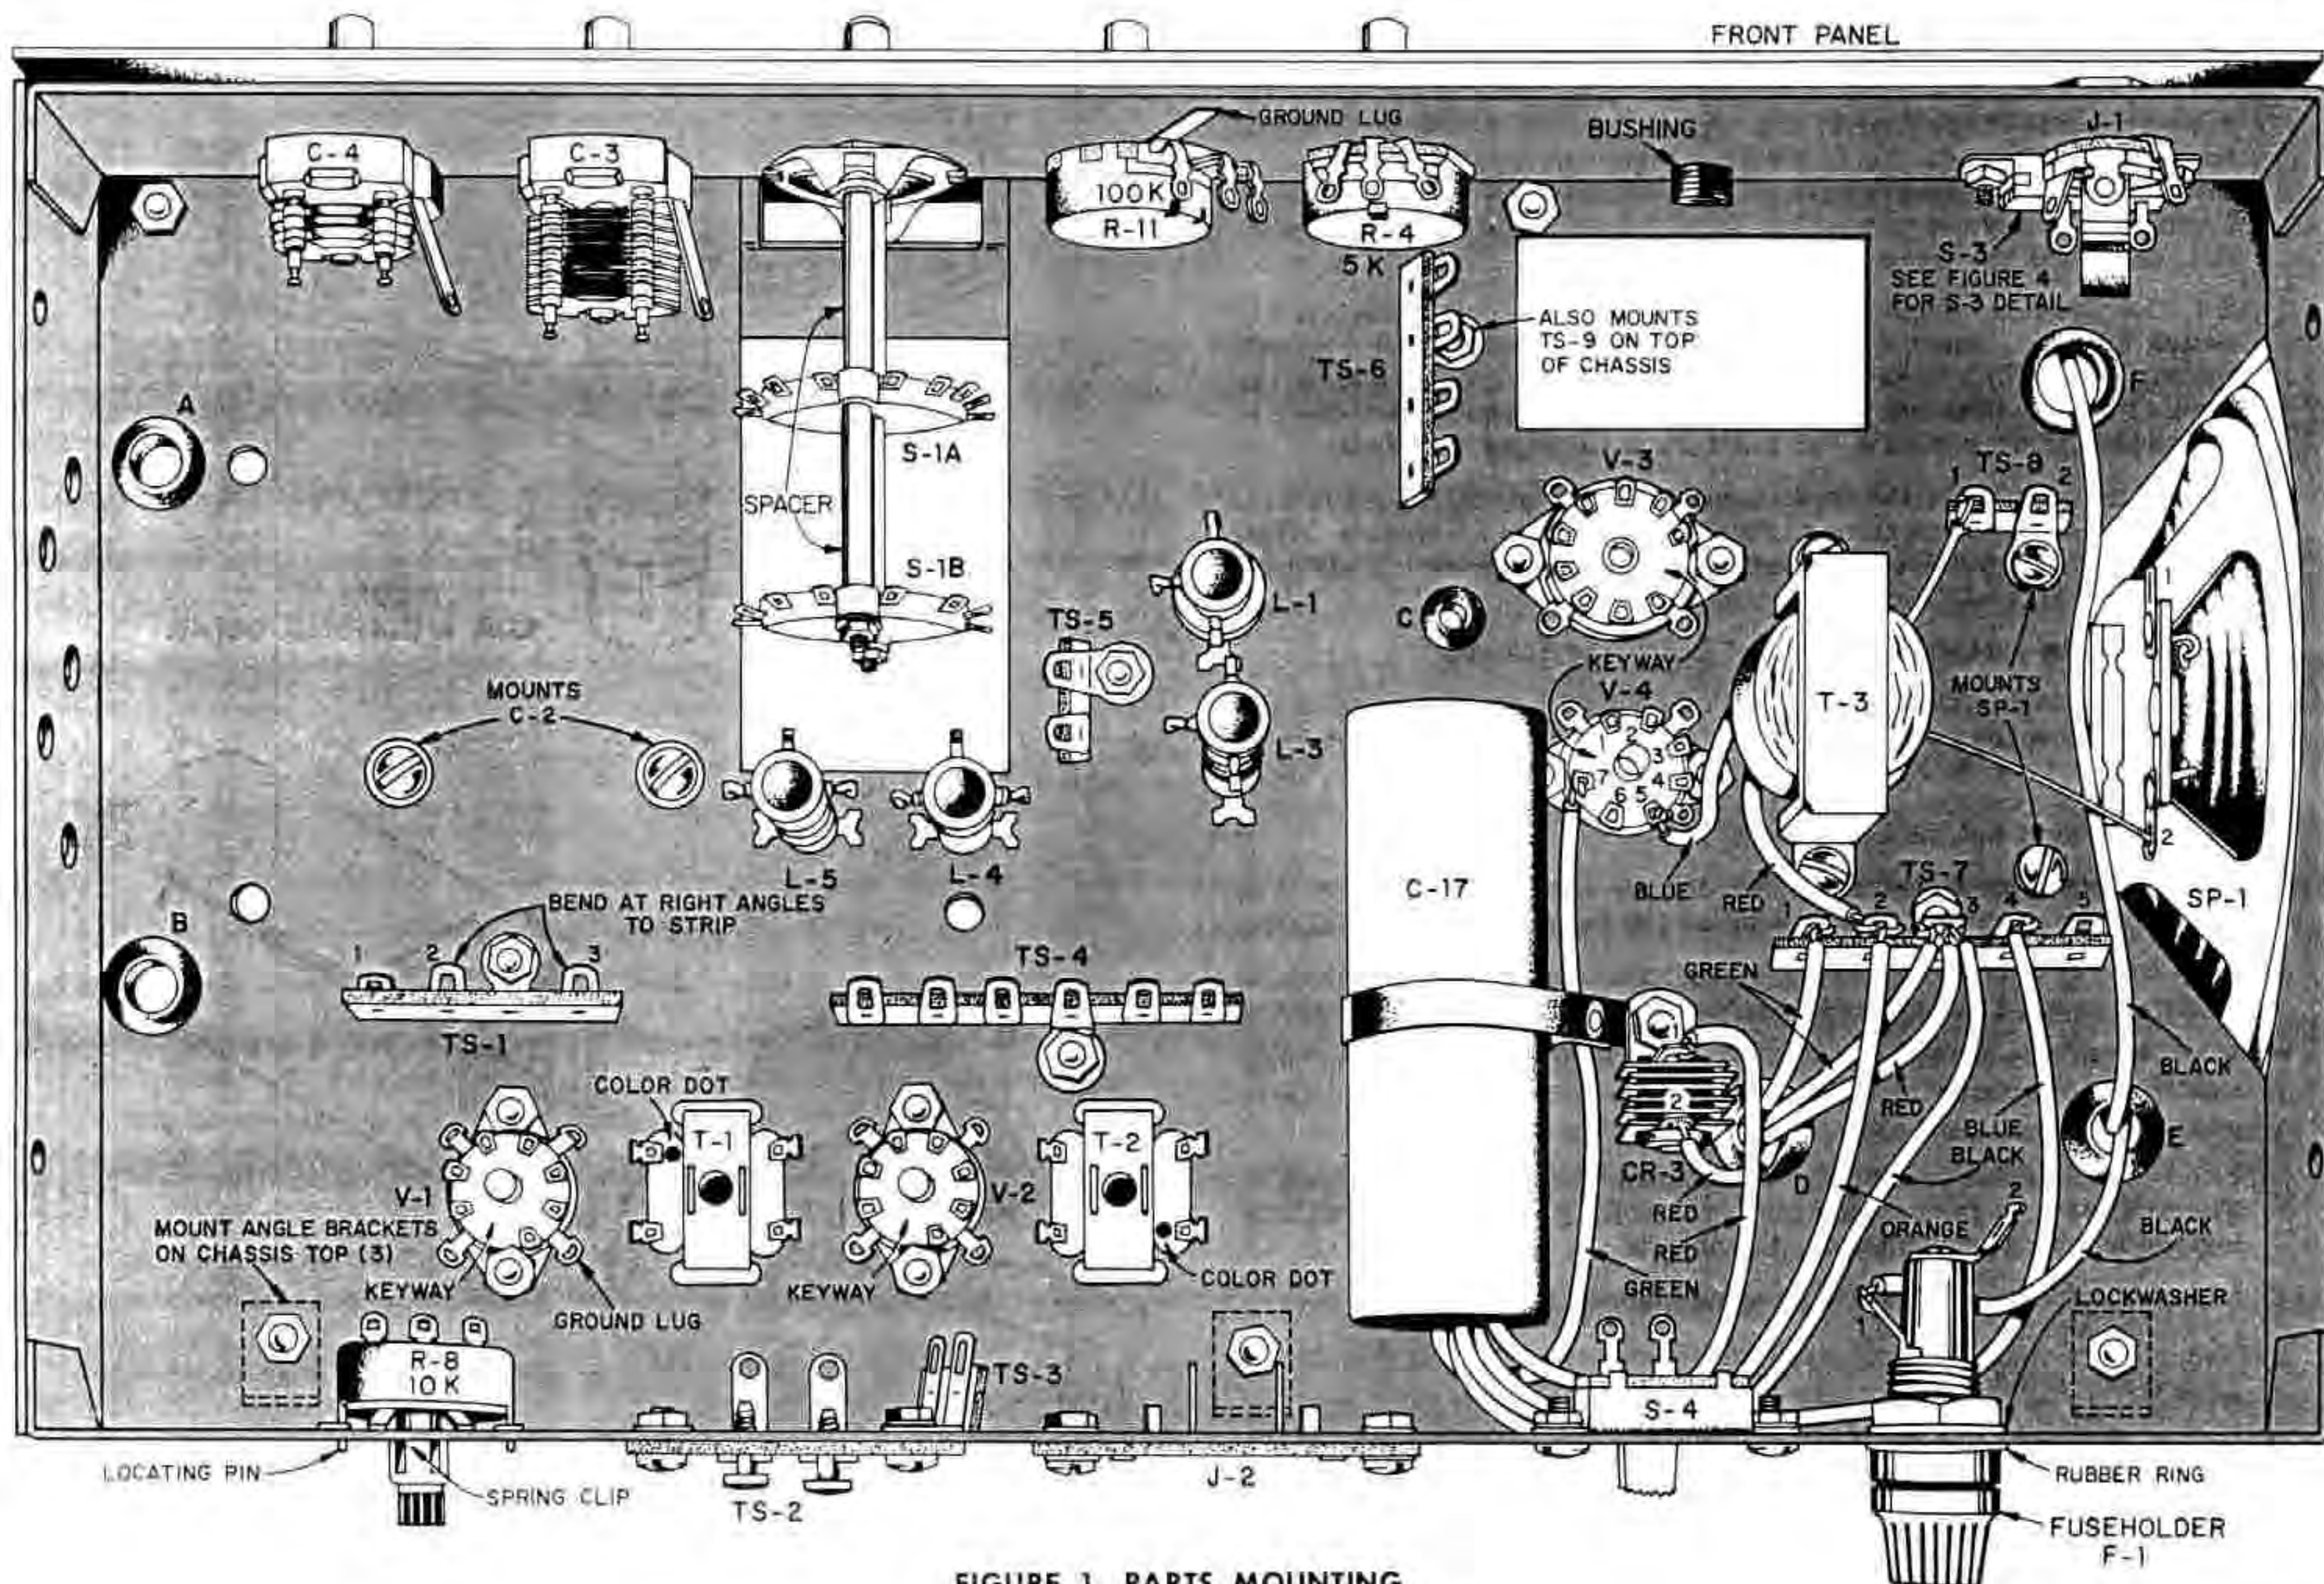

FIGURE 1. PARTS MOUNTING
- ✓ R-11, 100K control, a $\frac{3}{8}$ " lockwasher and large ground lug. Bend the tab on the side of the control flat against the face of the control. Slip the ground lug, then the lockwasher, over the shaft of R-11. Now mount R-11 and fasten with a $\frac{3}{8}$ " nut turned to finger tightness. Position R-11 and the ground lug so they are turned slightly towards R-4, as shown in Figure 1.